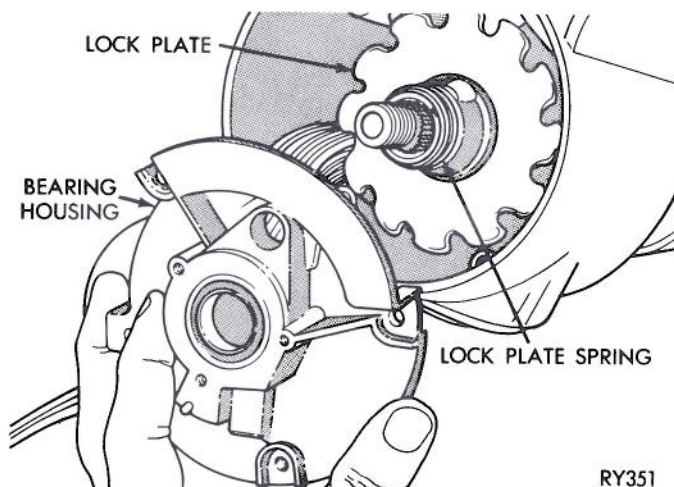

Fig. 9—Bearing Housing
(3) Remove bearing housing from shaft.
(4) Remove lock plate spring and lock plate from steering shaft (Fig. 9).
(5) Remove shaft through lower end of column.